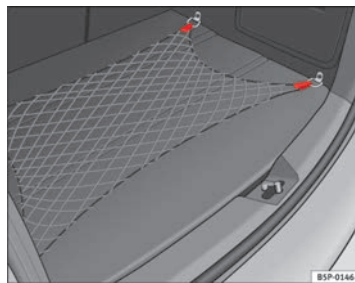

Fig. 109 Luggage compartment net
- Use the fastening rings located on the side of the luggage compartment to attach the storage net ⇒ fig. 109.